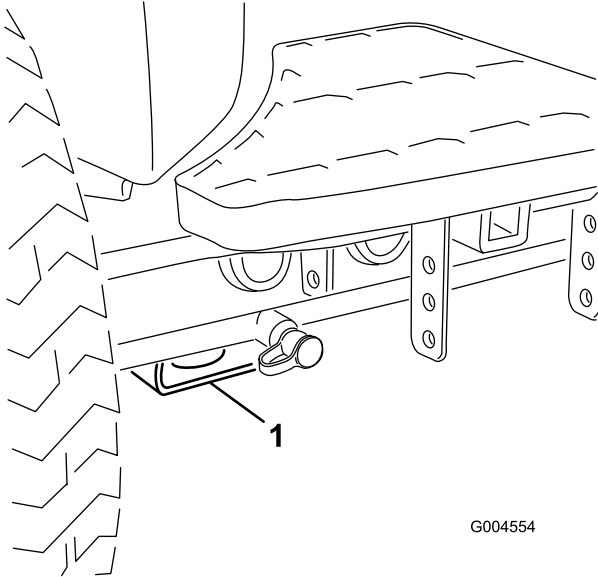

Figure 20
- Front—rectangular pad, under the axle tube, inside each front tire (Figure 20).